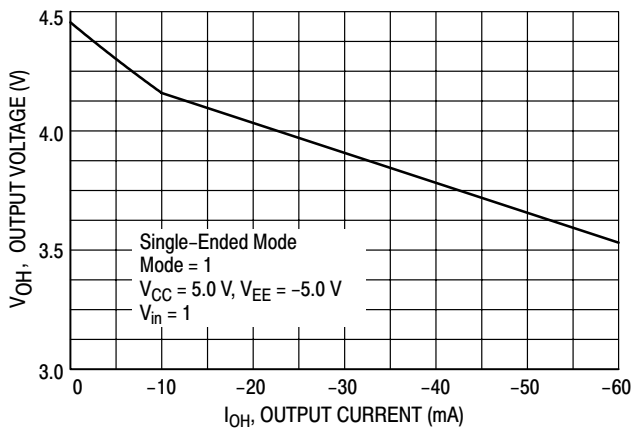
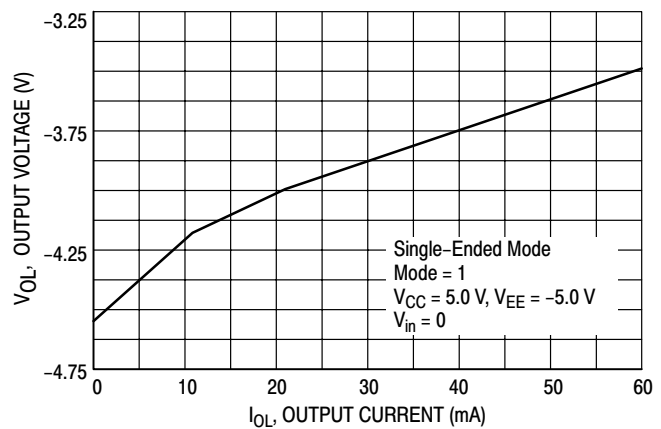
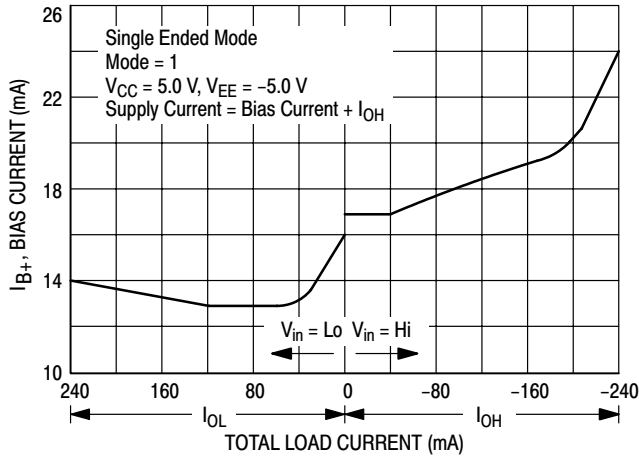
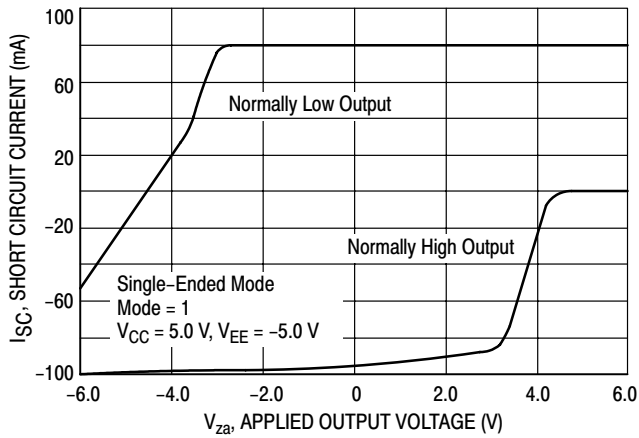

Figure 10. Output Voltage versus Output Source Current
Figure 11. Output Voltage versus Output Sink Current
Figure 12. Internal Positive Bias Current versus Load Current
Figure 14. Short Circuit Current versus Output Voltage
In this mode (Pin 4 ≥ 2.0 V) V_{CC} requires +5.0 V, and V_{EE} requires -5.0 V, both $\pm 5.0\%$. Pins 2, 3, 6, and 7 are inputs for the four drivers, and Pins 15, 14, 11, and 10 (respectively) are the outputs. The four drivers are independent of each other, and each output will be at a positive or a negative voltage depending on its input state, the load current, and the supply voltage. Figures 10 & 11 indicate the high and low output voltages for $V_{CC} = 5.0$ V, and $V_{EE} = -5.0$ V. The graph
of Figure 10 will vary directly with V_{CC} , and the graph of Figure 11 will vary directly with V_{EE} . A “high” output can only source current, while a “low” output can only sink current (except short circuit current – see Figure 14).
The outputs have short circuit current limiting, typically less than 100 mA over a voltage range of ± 6.0 V (see Figure 14). Short circuits should not be allowed to last indefinitely as the IC may be damaged.
In the single-ended mode, V_{EE} must be -5.0 V, $\pm 5\%$ in order to comply with EIA-423-A standards. Figures 12 and 13 indicate the internally required bias currents as a function of total load current (the sum of the four output loads). The discontinuity at 0 load current exists due to a change in bias current when the inputs are switched. The supply currents vary $\approx \pm 2.0$ mA as V_{CC} and V_{EE} are varied from $|4.75$ V| to $|5.25$ V|.
The above equation assumes I_O has the same magnitude for both output states, and makes use of the fact that the absolute value of the graphs of Figures 10 and 11 are nearly identical. I_{B+} and I_{B-} are obtained from the right half of Figures 12 and 13, and $(V_{CC} - V_{OH})$ can be obtained from Figure 10. Note that the term $(V_{CC} - V_{OH})$ is constant for a given value of I_O and does not vary with V_{CC} . For an application involving the following conditions:
2) The device may be operated in the single-ended mode (Pin 4 = 1) with V_{EE} connected to any voltage between ground and -5.25 V. Outputs in the high state will be at a voltage as shown in Figure 10, while outputs in a low state will be referenced to V_{EE} .